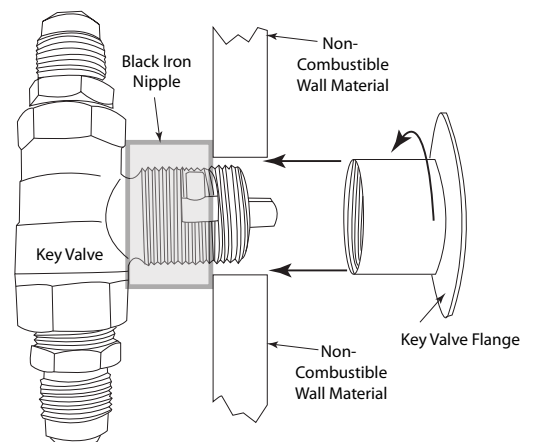

Fig. 5 Typical installation.
3. The primary gas shut-off (not supplied) will require a  $\frac{1}{2}$ " male flared fitting to enable connection of the stainless steel flex gas line supplied with the fire pit (see figure 5 page 6).
The key valve contents: 1- key valve, 1- key and 1- flange. (See figure 4). The valve requires a 1¼" round clearance hole in the non-combustible enclosure wall. See the instructions supplied with the key valve for more specific details. Note: Be sure to leak test all fitting before operation. Figure 5 shows an example of a typical installation.